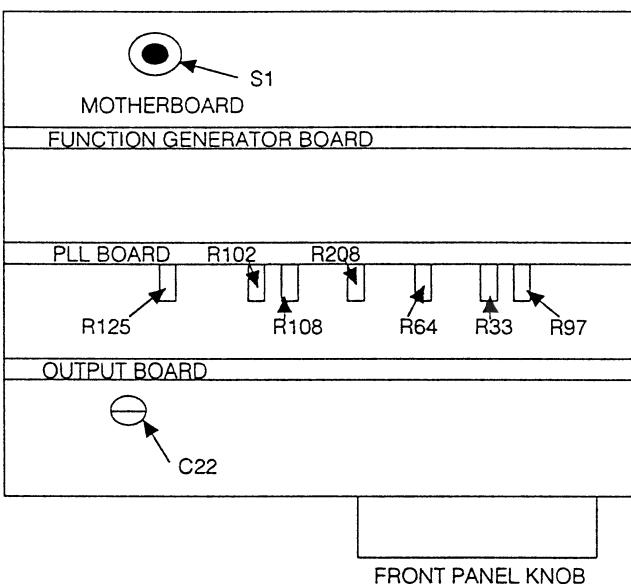

Figure 5-1. Calibration Location
- Slide the top cover back. Press and hold down the internal calibration switch S1 (figure 5-1) while pressing the front panel CALIBRATE key.
- Set the scope controls to display the Model 288 output. Verify that the scope displays peak-to-peak aberrations are greater than 3% and less than 5%. If incorrect, adjust C22 (figure 5-1) until the reading is within specified limits.
- On the Model 288, slowly adjust the Front Panel Knob (figure 5-1) until the THD as displayed on the distortion analyzer is minimum. Verify that reading is ≤ -50 dB at 10 kHz.
Adjust R33 (figure 5-1) until waveform peaks are clearly visible in the residue.
- If incorrect, adjust R208 (figure 5-1) until reading is within specified limits.
If carrier null is incorrect, adjust R108 (figure 5-1) for minimum indication..